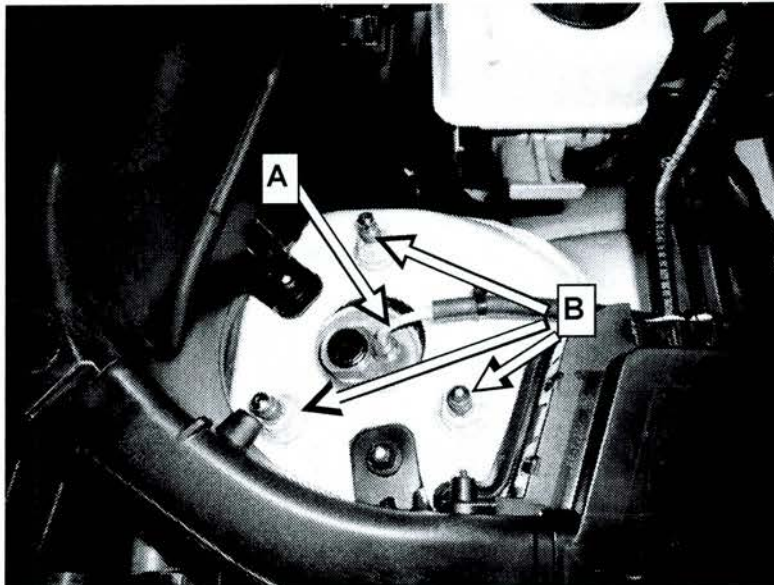

Figure 1
4. Detach and close off pressure lines (A, Figure 1) at suspension struts.
5. Unscrew nuts (B, Figure 1) at suspension struts at top.
- Assemble in reverse order, install new locking nuts (B, Figure 1) then torque nuts (B) to 60 Nm.